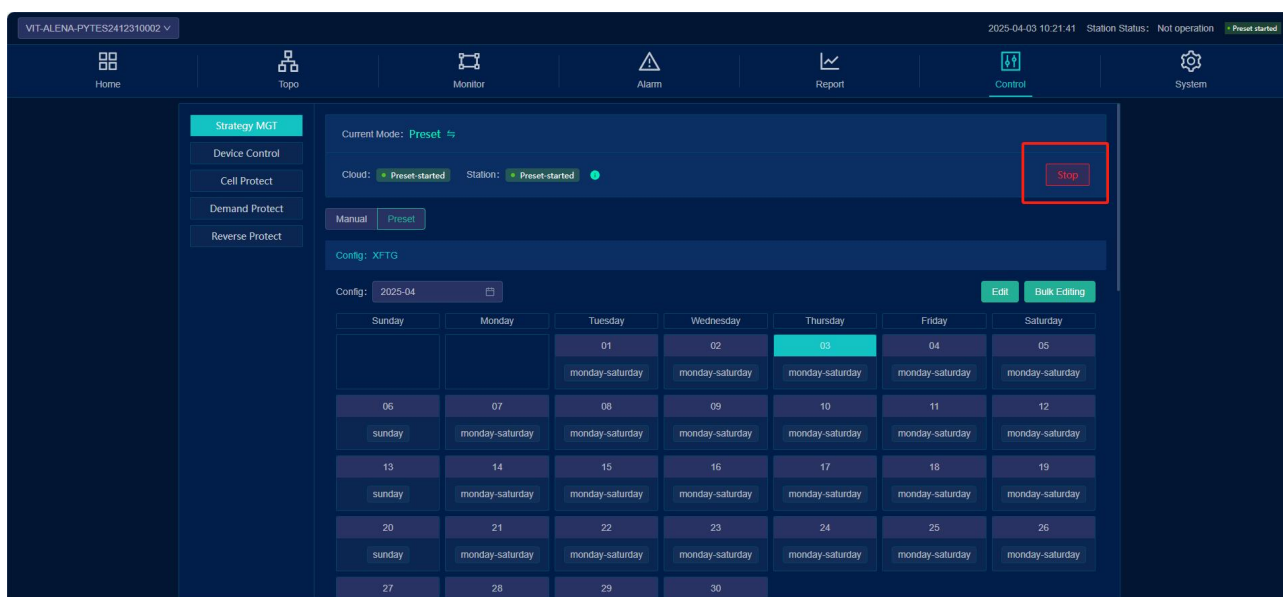

Fig.6.10 Stop strategy
Step 1: Log in to the cloud platform and stop the policy in "Control Center - Policy Management", as shown in Figure 6.10.